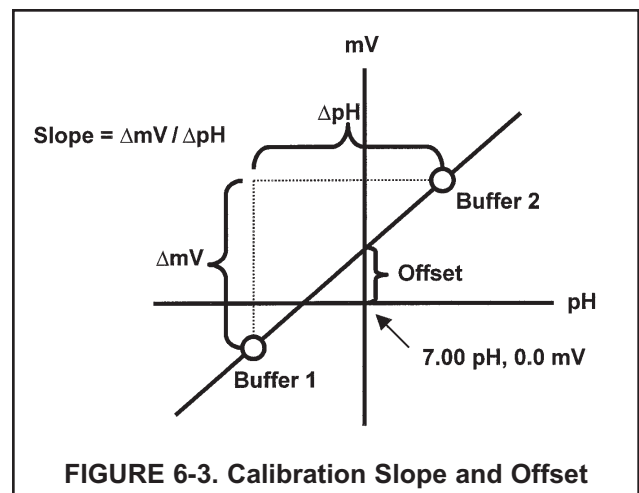

FIGURE 6-3. Calibration Slope and Offset
2. SLOPE AND OFFSET. Once the analyzer successfully completes the calibration, it calculates and displays the calibration slope and offset. The slope is reported as the slope at 25°C. Figure 6-3 defines the terms.